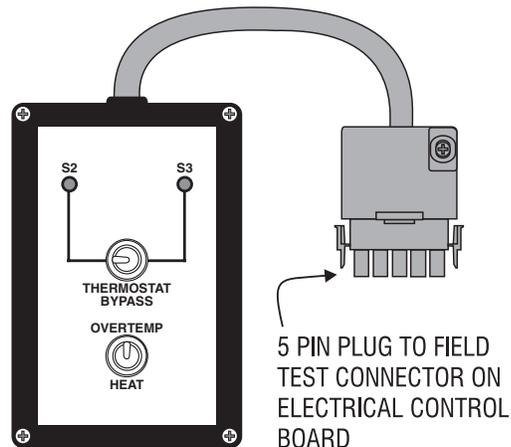

Figure 5 - TC20 Test Tool* (P/N 08606000)
3. Connect the TC20 Test Tool (fig. 5) to the 5-pin field test connector on back of the PC board and route the TC20 Test Tool cable out through the opening in the bottom of the unit (see fig. 10, p. 25). Close the two halves of the enclosure and temporarily secure it closed with adhesive (duct) tape. Plug in the power unit.